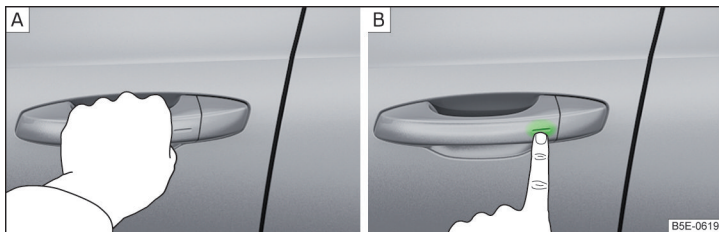

Fig. 51 Vehicle unlocking / vehicle locking
- ▶ Grip the door handle to **unlock** the vehicle » Fig. 51 - A.
- ▶ Touch the sensor on the door handle with your finger to **lock** » Fig. 51 - B the vehicle.
- Within 5 s, touch the sensor on the door handle with your finger » Fig. 51 on page 60 - [B]. Deactivation is confirmed by a single flash of the direction indicators.